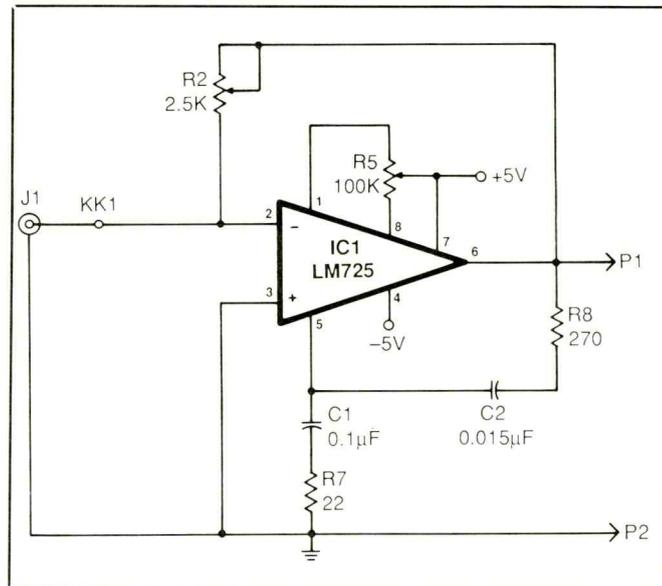

Fig. 2. Schematic diagram of basic circuitry for selenium-cell version of project.
**Note:** For selenium-cell version of project (Fig. 2), substitute a selenium solar cell for PC1 (see text), change the value of R2 to 2,500 ohms, and eliminate R1, R3, R4 and R6. Magicland (see below) has a PR13 lamp with a measured output, instructions and test sheet suitable for light meter calibration for \$6 (Michigan residents, please add 4% sales tax).